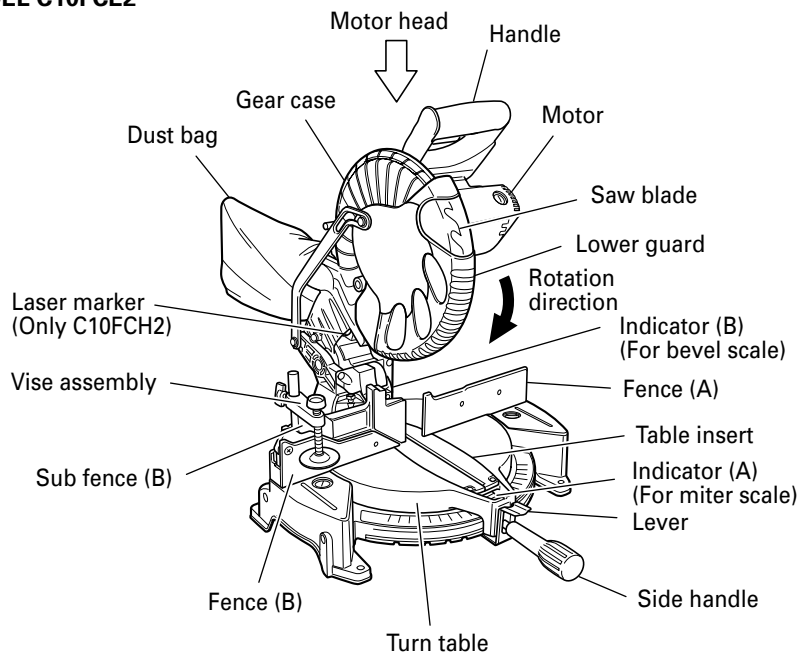
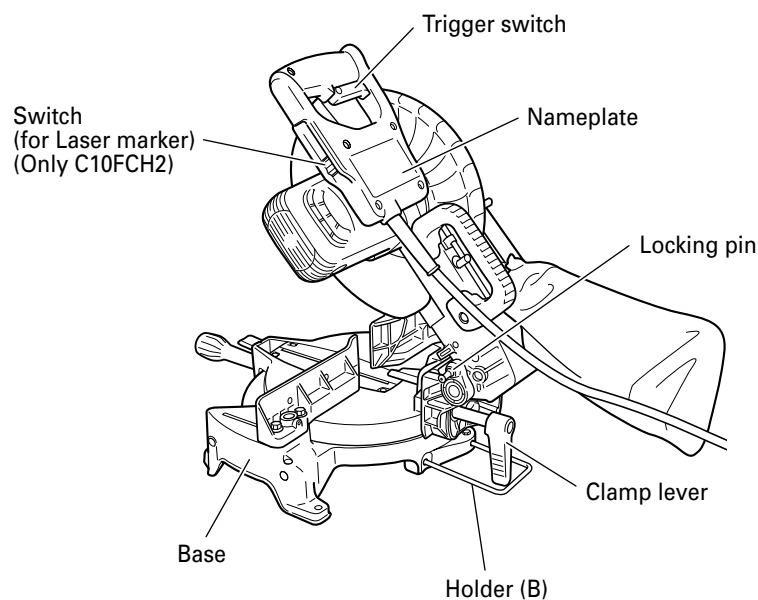

Fig. 1
Fig. 2
- Installing the dust bag, holder, stopper and vises (The holder and stopper are optional accessories.) Attach the dust bag and vise assembly as indicated in Fig. 1 and Fig. 2.